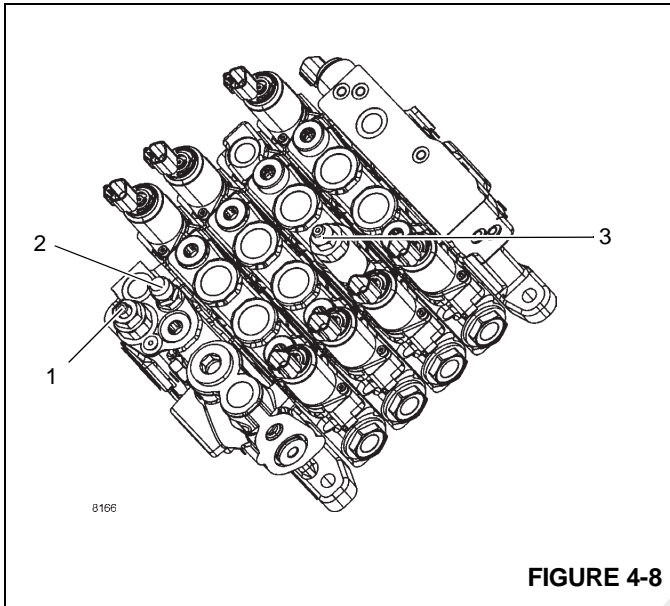

FIGURE 4-8
2. On the control valve, remove the cap on the load sense relief valve (1, Figure 4-8) and turn the adjusting screw fully in. A 19 mm open end wrench is required for the jam nut and a 3 mm hex wrench is required for the adjusting screw.
3. Loosen the jam nut on the relief valve (1, Figure 4-8). A 19 mm open end wrench is required for the jam nut.
4. Ensure the boom is all the way down. Activate the boom down function at full engine throttle, adjust the load sense relief setting by turning the relief valve adjusting screw (1, Figure 4-8) until  $258.55 \pm 3.45$  bar ( $3750 \pm 50$  psi) pressure is obtained on the pressure gauge; clockwise increases pressure, counterclockwise reduces the pressure. A 4 mm hex wrench is required for the adjusting screw.
3. Remove the cap nut on the priority flow load sense relief valve (2, Figure 4-8) located on the main control valve. A 18 mm wrench is required for the cap nut. Turn steering wheel all the way to one side until the steer cylinder bottoms out while another person adjusts the priority flow load sense relief setting by turning the relief valve adjusting screw (2, Figure 4-8) until  $172.37 \pm 3.45$  bar ( $2500 \pm 50$  psi) is obtained on the pressure gauge; clockwise increases pressure, counterclockwise reduces the pressure. A 3mm hex wrench is required for the adjusting screw.
- c. If the pressure is incorrect, adjust the extend work port relief valve (3, Figure 4-8) on the control valve until the pressure reads  $193.05 +3.45/-0$  bar (2800 +50/-0 psi); clockwise increases pressure, counterclockwise reduces the pressure. A 3mm hex wrench is required for the adjusting screw.
When the hoist block comes in contact with the anti-double blocking bracket at the end of the boom head, the bracket raises and actuates a switch. This switch, when actuated, closes an electrical signal to the three solenoid valves opening them Figure 4-8. With the solenoid valves open, oil supply to the check valve is reduced. The check valve spring